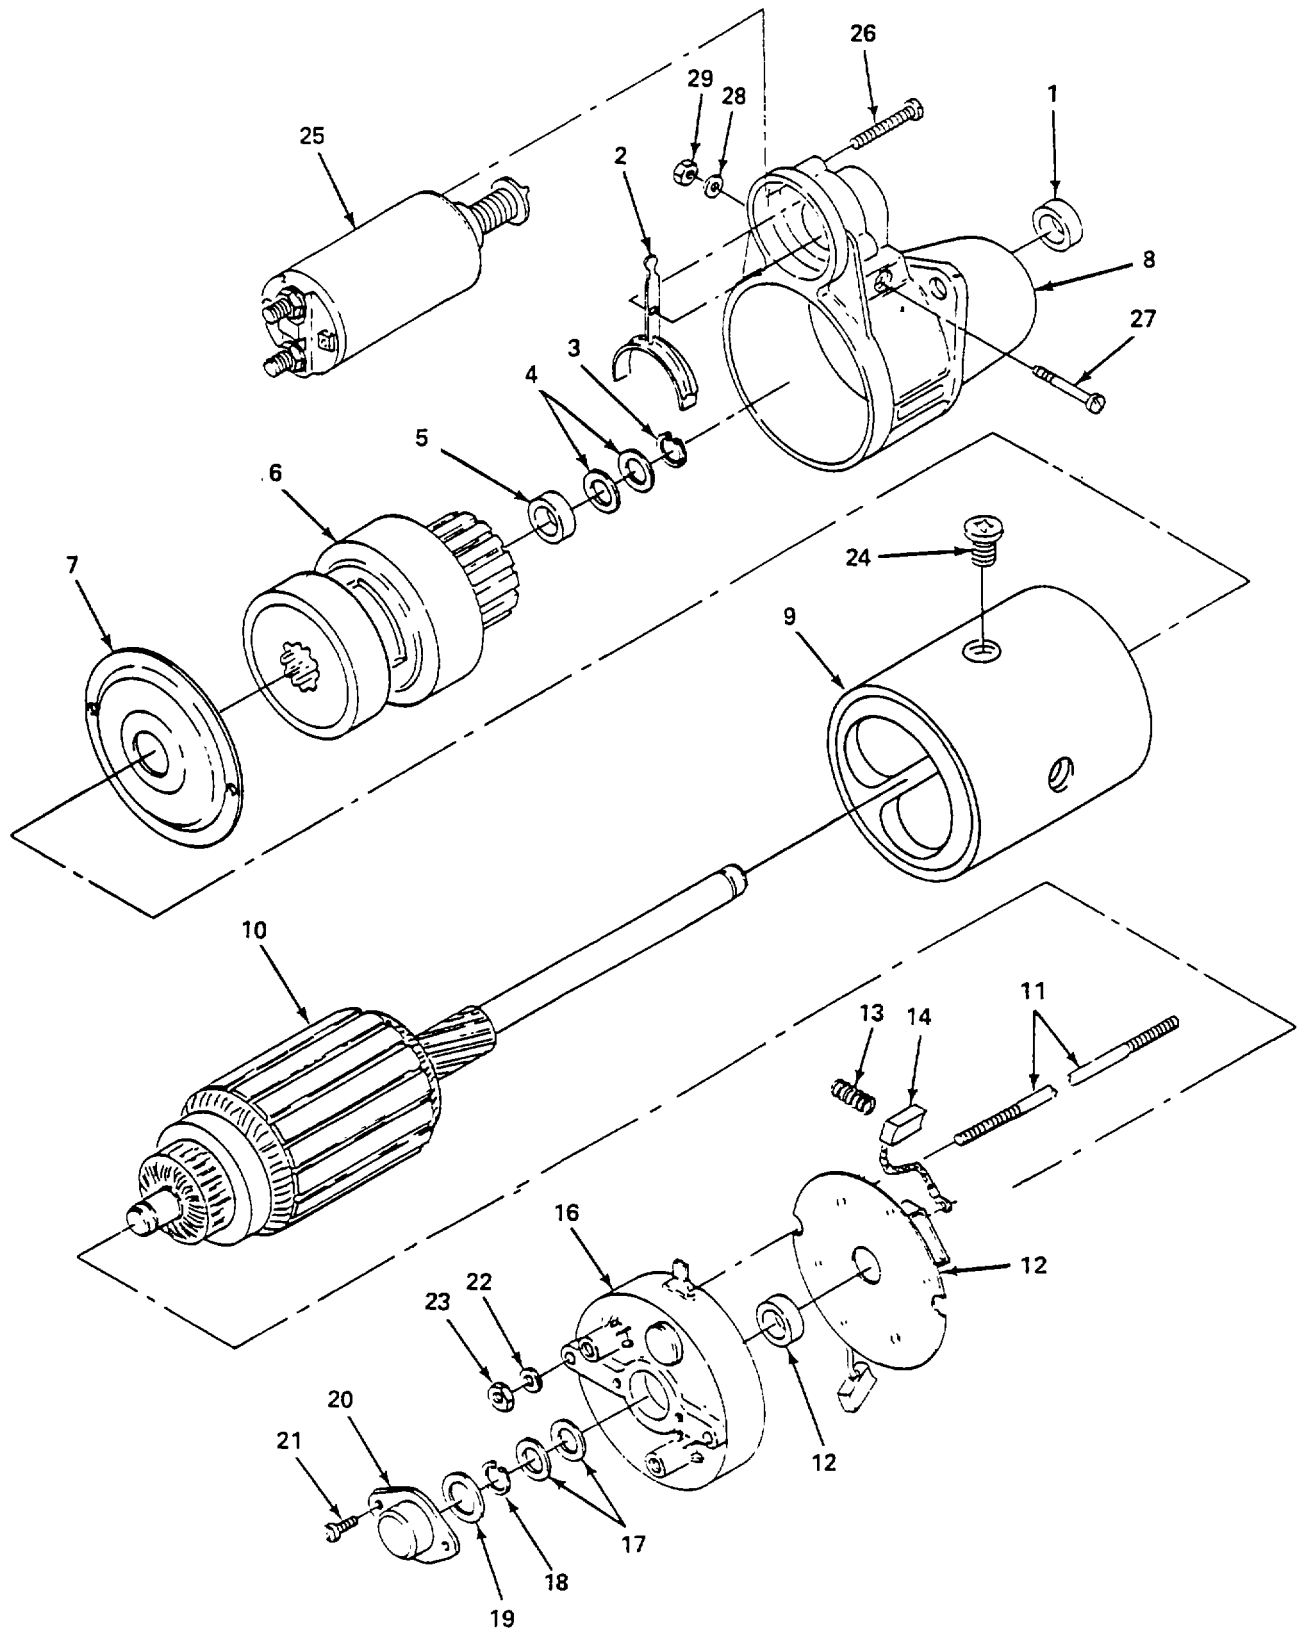

Figure 6-21. Starter, Assembly.
(2) *Assemble.* (figure 6-21)
- (a) Install bearing bushing (1), shaft lever (2), washer (3), seal (4), bearing bushing (5), pinion (6), bearing bushing support (7) into drive bearing (8).
- (b) Install winding (9), armature (10), and two threaded pins (11).
- (c) Install brush holders (12), four compression spring (13), brushes (14), bearing bushing (15), and commutator bearing (16).
- (d) Install two washers (17), half-moon ring (18), and seal (19).
- (e) Install cap (20) and secure with two screws (21).
- (f) Install two washers (22) and nuts (23).
- (g) Install four screws (24).
- (h) Install ignition switch (25) and secure with three screws (26).
- (i) Install screw (27), washer (28), and nut (29).